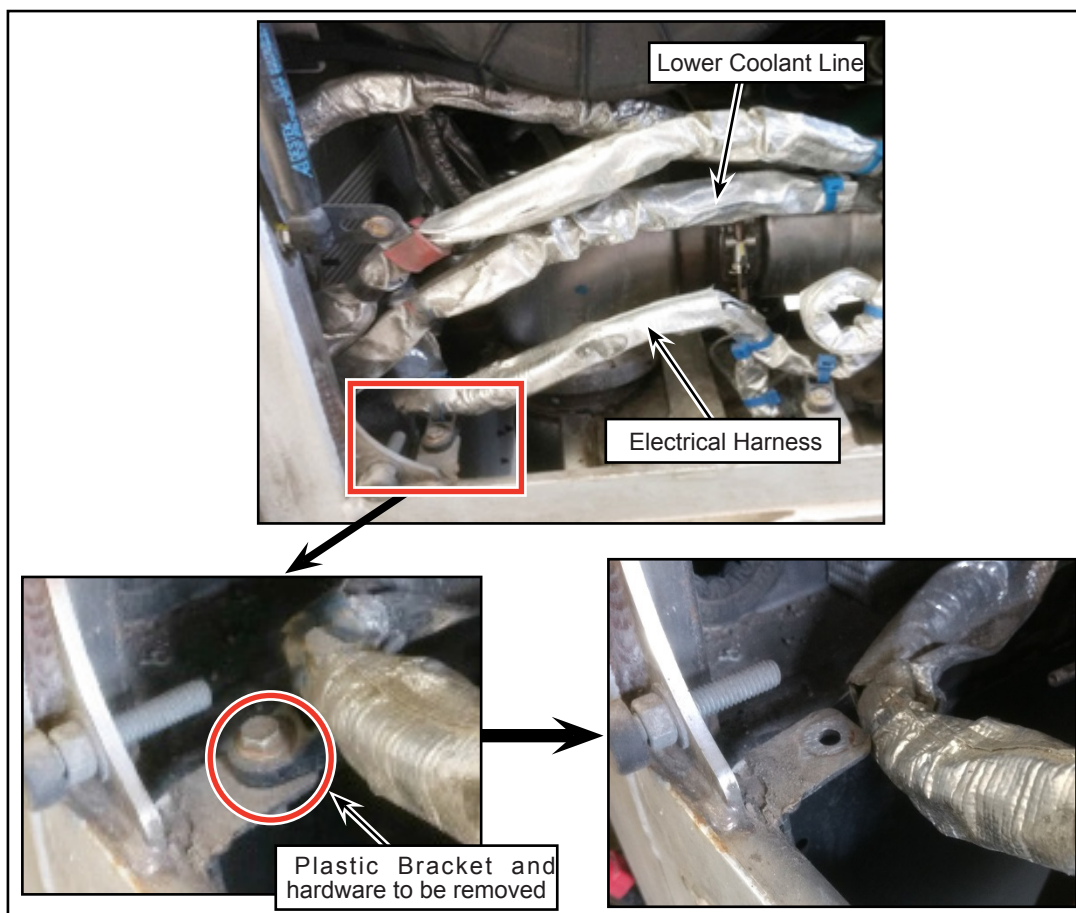

Figure 10 - Removal of Plastic Bracket and Hardware
- 1.13. Remove and retain the existing plastic bracket and hardware from its original position shown (see Figure 10).